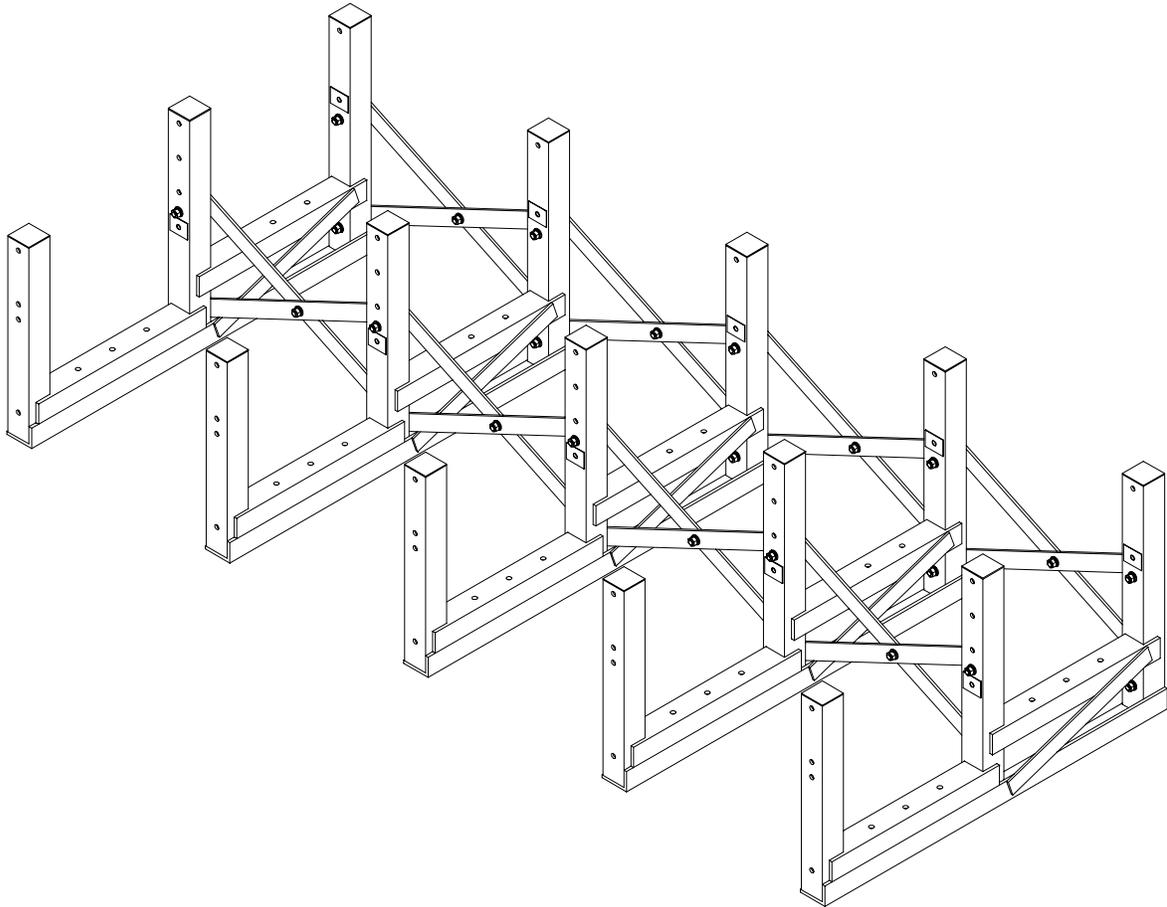

Figure 7.2a
- For 2 Step racks, install rear and middle cross braces before installing cells on rack. See Figure 7.2a.